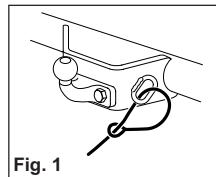

Fig. 1
- Pass the cable through the attachment point and clip it back on itself (Fig. 1).